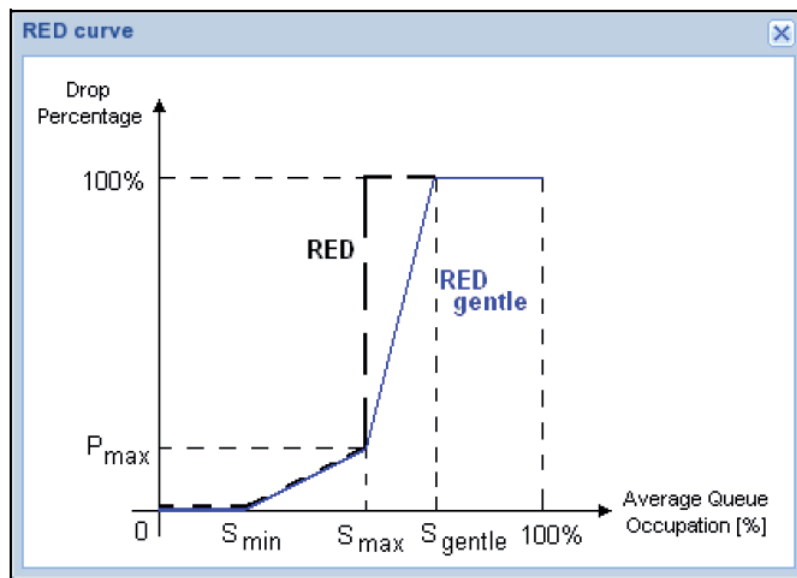

Fig.14 - Red curve
- WRed: Weighted Random early Discard: with this policy, before the Queue is full some incoming packets are dropped randomly. First are dropped the packets coloured in yellow and then are dropped the packet coloured in green, see Fig.14.
The value set the points of the curve shown in Fig.14. There are some predetermined profiles to be enabled: